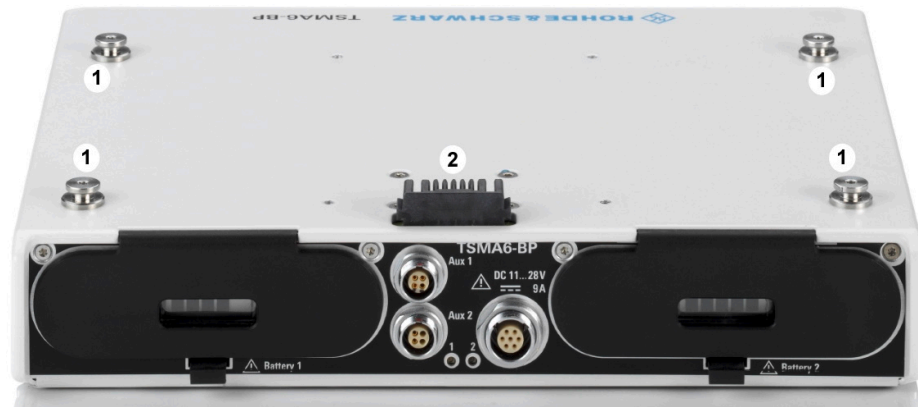

Figure 5-4: R&S TSMA6-BP
3. Attach the R&S TSMA6 with the bottom side (see Figure 5-5) on top of the R&S TSMA6-BP (see Figure 5-4).